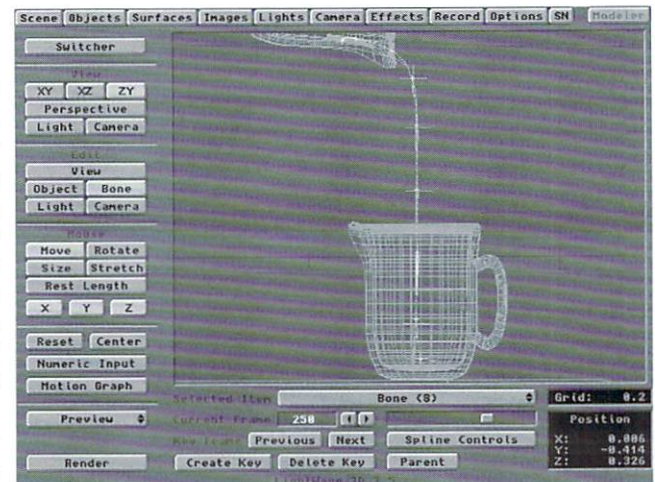

Figure 7: The Bones will need some tweaking so they all follow the same path.
- Make sure that Bone (10) is selected and click on the **Motion Graph** button (m). Select **Save Motion**, type in any file name to save this motion path, and then click on the **Use Motion** button.
- Select Bone (9) from the Layout screen and select **Motion Graph**. Load in the same motion path file that you just saved. Click on the **Shift Keys** button, enter 10 for the **Shift Frames By** value, hit the **OK** button, and then tap the **Use Motion** button.
- Repeat this process for all of the Bones, shifting Bone (8) by 20 frames, Bone (7) by 30 frames, Bone (6) by 40 frames, and so on.
When you're done setting up motion paths for all of the Bones, you will need to tweak them with the **Move** and **Rotate** functions to make each Bone's motion path look exactly the same as the motion path we set up for Bone (10). These tweaks are essential because the "WtrPour.lwo" object is changing position while the "Contr1.lwo" object rotates. It may be helpful if you add a few nullobjects and use them as reference points to mark the path your Bones should follow, as seen in Figure 7.